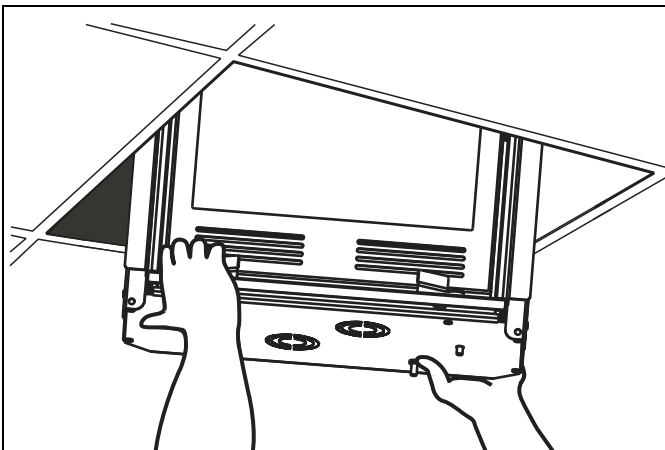

Figure 10
1. Carefully insert MSP-CACMS491 through opening. (See Figure 10)